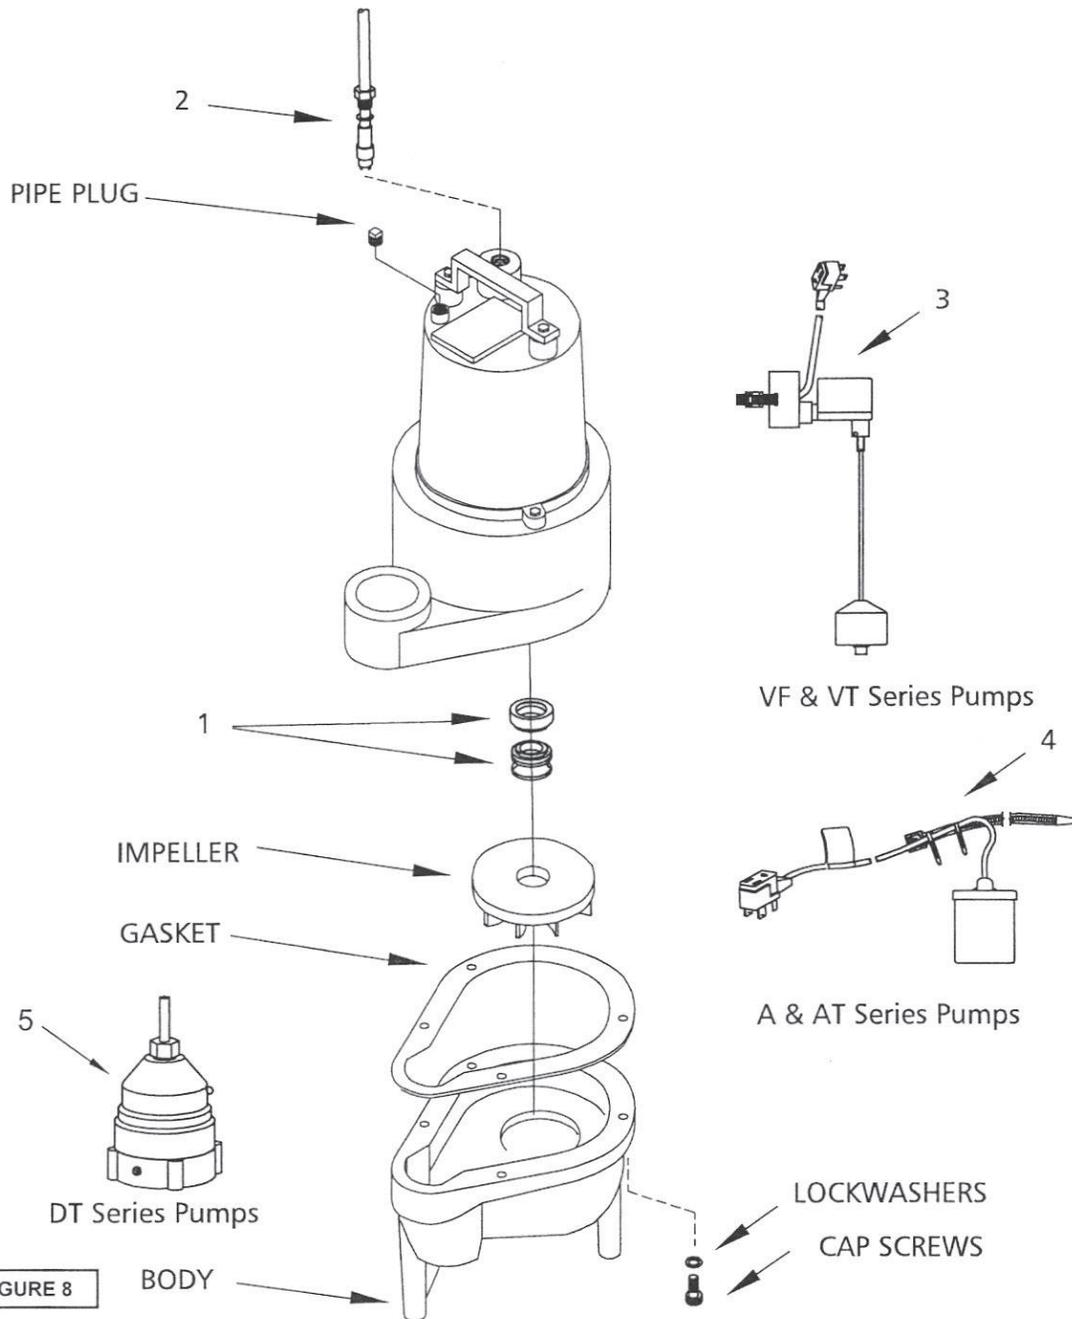

FIGURE 8
**NOTE:** All item numbers ( ) refer to Figure 8.